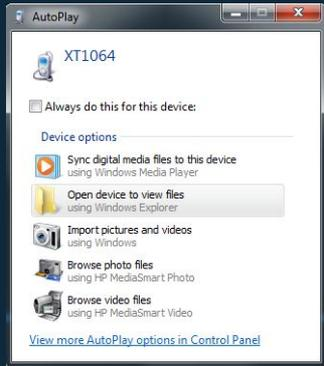

Figure 1
- ◇ When the phone has successfully connected with the computer, this screen should pop up (See Figure 1) not go under the start menus and computer and the phone should be located as a device on the left side panel.